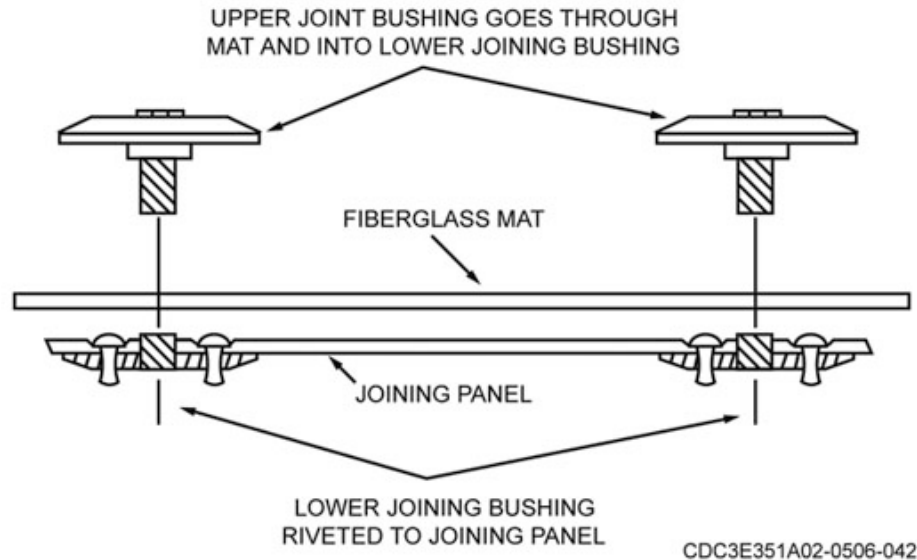

Figure 3-11. Bushing installation.
1. On the first mat, raise the edge on one of the 54-foot sides and slip in either the 24-foot or the 30-foot joining panel underneath it. (**NOTE:** The joining panels have female bushings installed on the bottom, as shown in figure 3-11.)